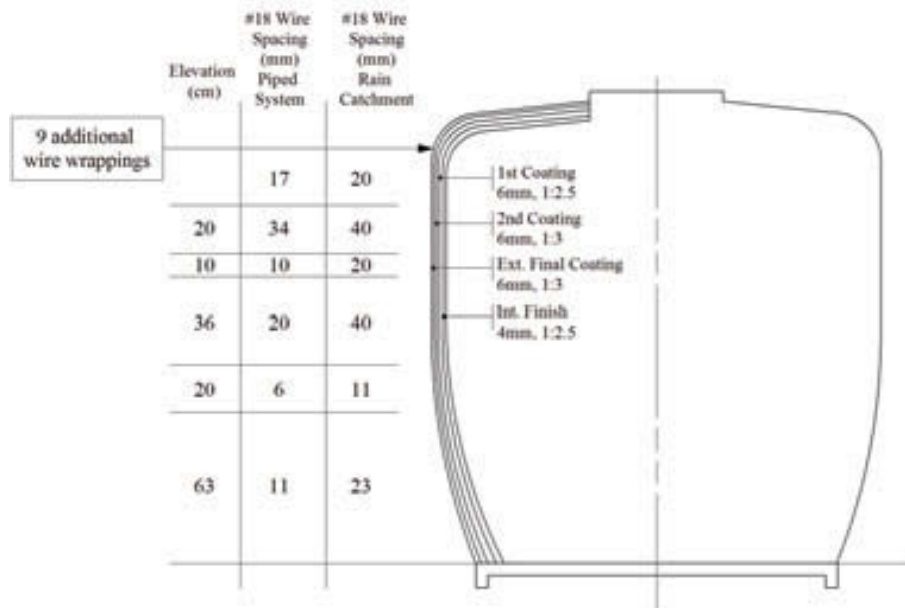

Fig. 36: Example of horizontal wire spacing for a 5,000 L tank
3. Wrap one end of a roll of #18 wire around the base of the tank and tie it snugly to itself. Then take the rest of the roll and wrap it tightly around the tank following the spacing guidelines you marked. See figure 36 for an example of horizontal wire spacing.